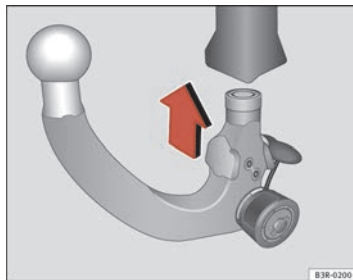

Fig. 156 Removable towing bracket: Inserting the ball joint
- With the spring mechanism in the ready position, insert the ball joint into the mounting fixture and push it upwards ⇒ page 203, fig. 156 in the direction indicated (arrow) ⇒ **!**. It should lock into position automatically. You should now clearly hear it click into place.